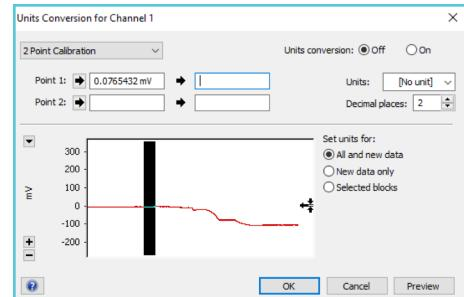

Figure 73.
Step 9: Next, select '2 Point Calibration', mark out the zero part of the trace and click the arrow for 'Point 1' (figure 73).